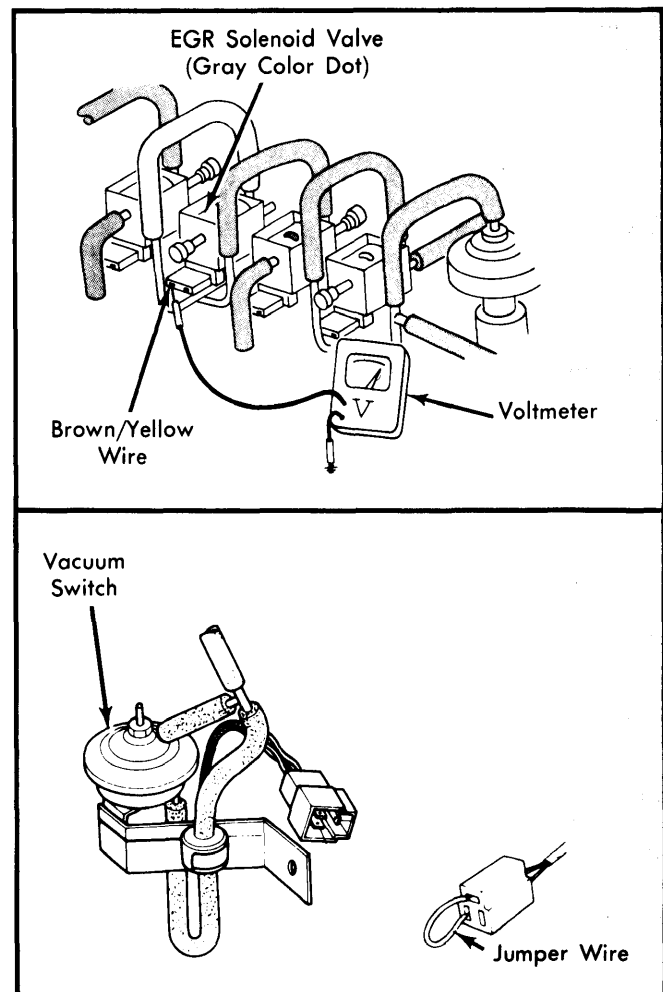

Fig. 3 Testing EGR Solenoid Valve Signal
- 2) Start engine and quickly increase engine speed to 2500 RPM, using throttle. Check that current flows to terminal for a few seconds and then stops. Disconnect vacuum switch electrical coupler and place a jumper wire on connector terminals. See Fig. 3.